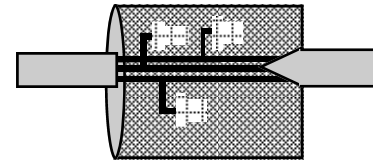

Figure 1
2. Slide mesh centering bag over wire to be spliced. (Cut a slit in the closed end of the mesh bag to pass wire through.) (see figure 1)
4. Slide mesh bag back over splice connectors. (see figure 1)